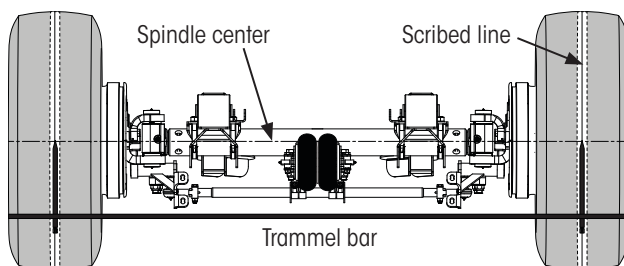

Figure 32: Measuring X and Y dimensions
**IMPORTANT:** To ensure consistent measurements, X and Y measurements should be made at the same height, center of spindle, on the tires (Figure 32). **This measurement should always be taken with the suspension at ride height.**